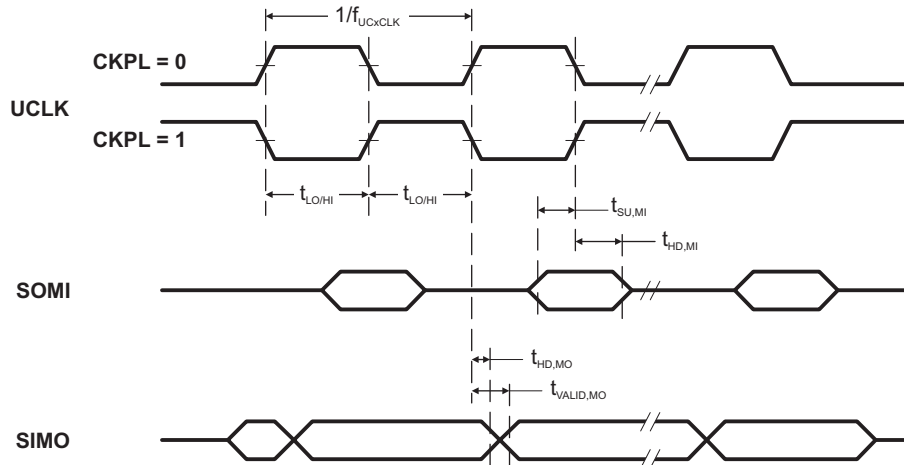
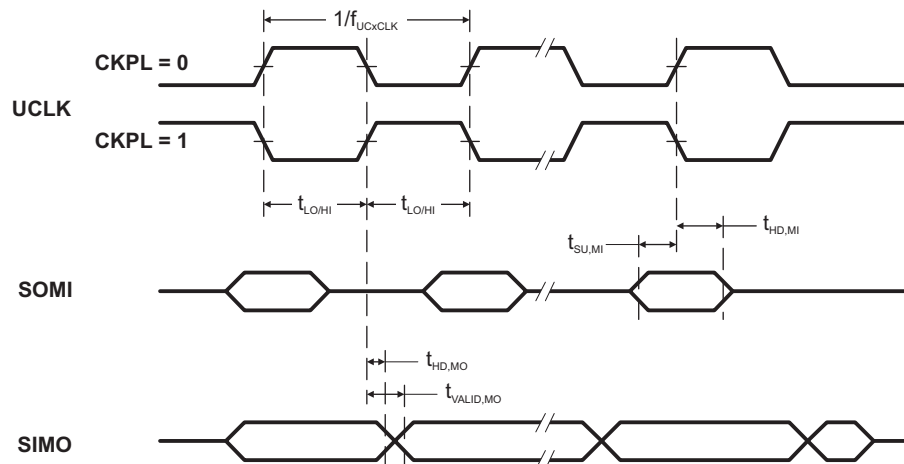

Figure 15. SPI Master Mode, CKPH = 0
Figure 16. SPI Master Mode, CKPH = 1
(see Note (1), Figure 15 and Figure 16)
- (2) Specifies the time to drive the next valid data to the SIMO output after the output changing UCLK clock edge. See the timing diagrams in Figure 15 and Figure 16.
- (3) Specifies how long data on the SIMO output is valid after the output changing UCLK clock edge. Negative values indicate that the data on the SIMO output can become invalid before the output changing clock edge observed on UCLK. See the timing diagrams in Figure 15 and Figure 16.
(2) Specifies the time to drive the next valid data to the SOMI output after the output changing UCLK clock edge. See the timing diagrams in Figure 15 and Figure 16.
(3) Specifies how long data on the SOMI output is valid after the output changing UCLK clock edge. See the timing diagrams in Figure 15 and Figure 16.